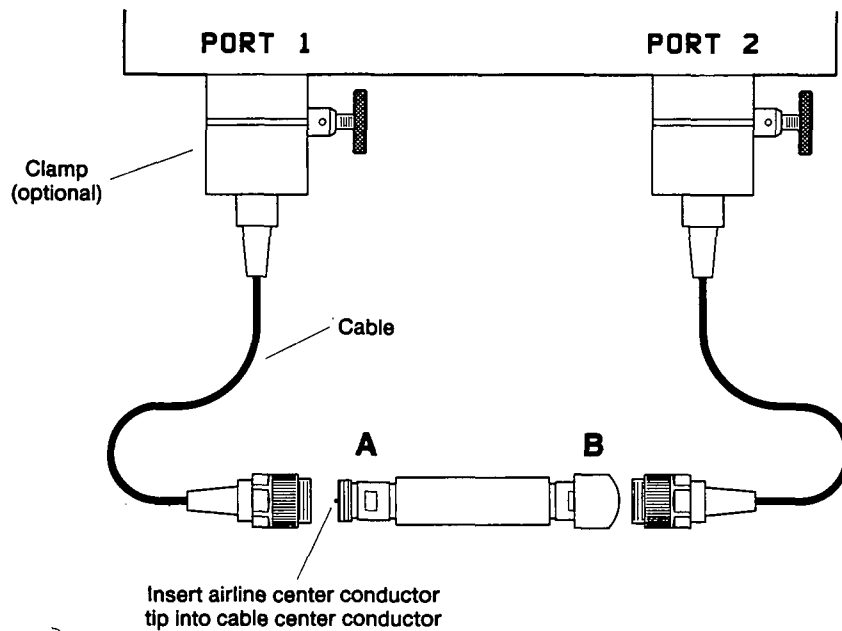

Figure 6. Connecting the Airline
5. Insert the tip of the center conductor (emerging from the 'A' end) into the cable center conductor (Figure 6). Mate the outer conductors of the airline and port 1 cable connector finger tight.